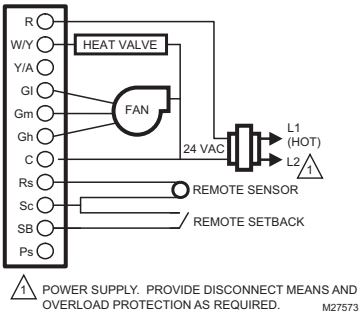
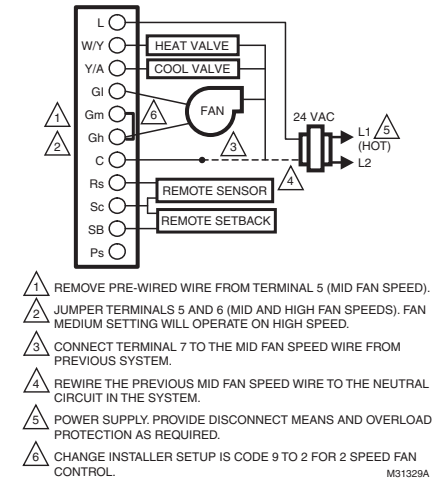

Fig. 14. Two pipes Heat-only wiring diagram (24 Vac shown).
Fig. 20. Wiring diagram when missing a wire for electromechanical retrofit (24 Vac shown).
- TB8575A1016 model, which is 24 Vac powered. Refer to Fig. 14–Fig. 20, beginning on page 9.